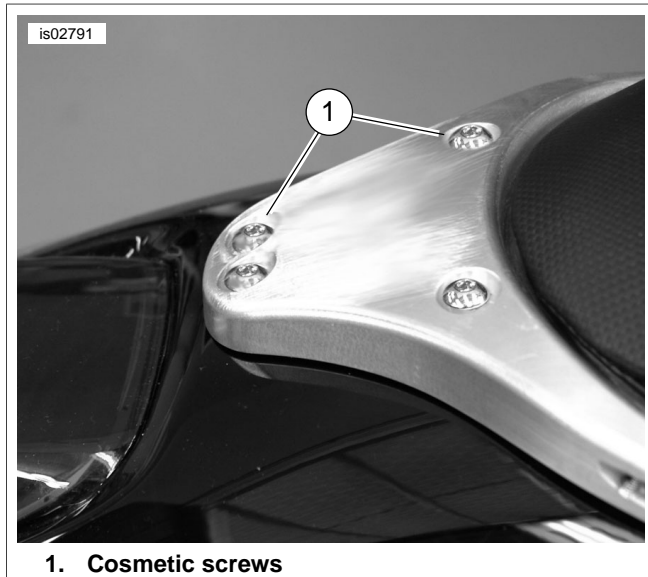
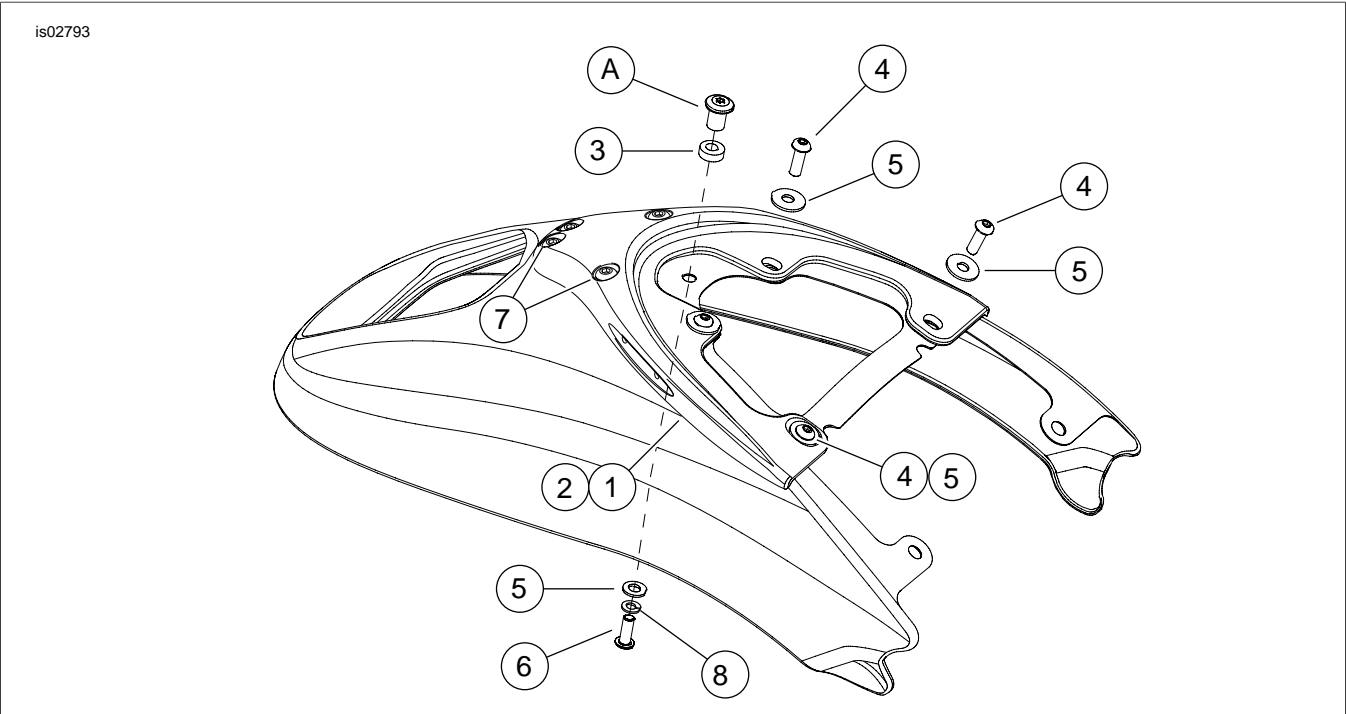

Figure 8. Install Cosmetic Screws
Figure 9. Service Parts: Baseplate Kit
See Figure 9 and Table 2.
7. See Figure 9. Obtain baseplate (1) and baseplate gasket (2) from kit.
18. See Figure 8 and Figure 9. Obtain four screws (1) from kit. Install the four (cosmetic) screws into the holes at the rear of the baseplate. Tighten screws to 28 Nm (21 ft-lbs).